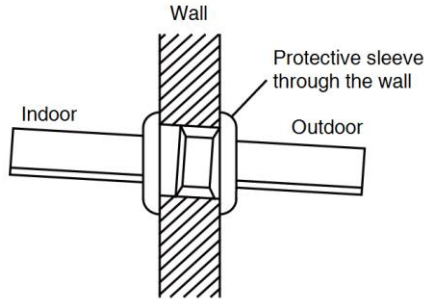
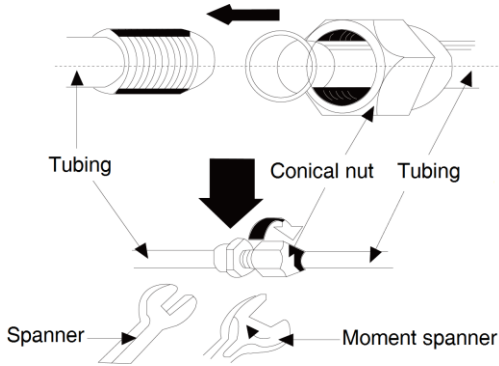

Figure 7-1 Refrigerant connecting pipe through the wall
Figure 7-2 Fastening the connecting pipe
- (1) If the water tank and the main unit need to be connected by punching through a wall, a hole of  $\Phi 55$  mm must be drilled in the wall and the hole should be inclined toward the exterior wall, as shown in Figure 7-1. Protective sleeves need to be put on both sides of the hole.
- (2) Bind up the connecting pipes, power cable, water temperature sensing package, and communication lines (if necessary) of the wired controller with thermal insulation bands, and then lead them through the hole.
- (3) Remove the refrigerant pipe joint from the water tank and the sealing nuts from the small and large valves of the outdoor unit, and add refrigerant oil on the joint and valve cones.
- (4) Remove the sealing caps of the connecting pipe. Align the center of the bell mouth with the pipe joint and valve cone, and screw up the conical nut with your hand and then with a wrench, as shown in Figure 7-2.